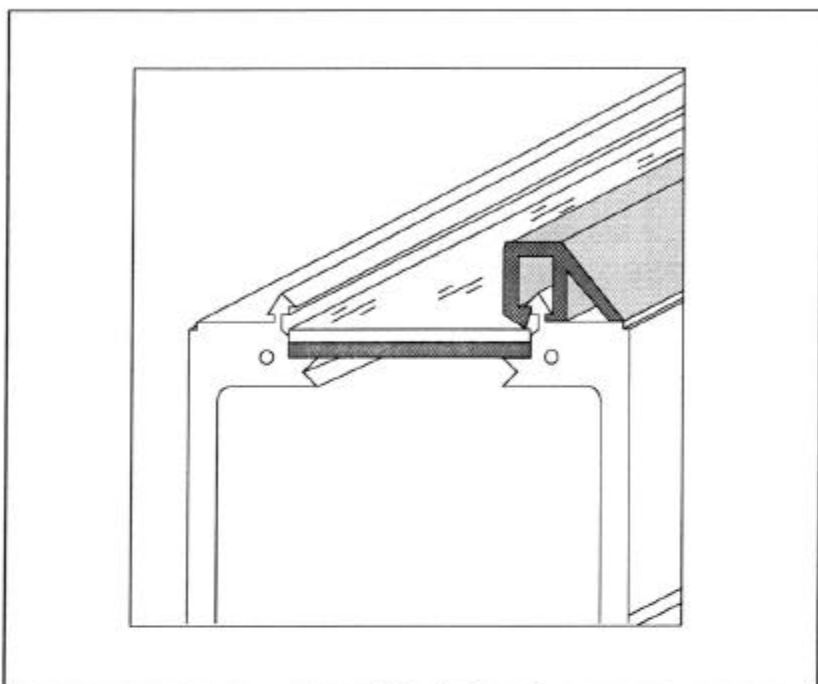

Figure 12-3 Push on strip until it locks into place
5. Now gradually secure this snap-on strip with the locking edge and by applying pressure push onto the casing until it locks into place (Figure 12-3).